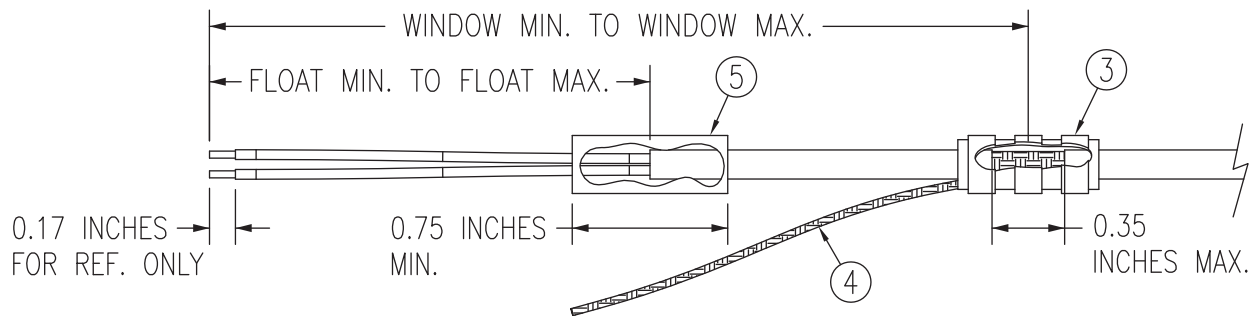

Figure 6-2 Shield Termination Technique Method A.1
- Connect a flat braid (item 4, Figure 6-2) to the shield exposed through the window of the prepared cable assembly from the preceding step. The flat braid should exit the front of the termination and towards the connector. The flat braid should not exit the rear of the termination and loop back towards the connector. Make the connection between the flat braid and the prepared cable assembly using an approved shield termination technique.
Slide a solder sleeve (item 3, Figure 6-2) onto the prepared cable assembly and connect the flat braid to the shield using a heat gun approved for use with solder sleeves. Using a solder sleeve with a pre-installed flat braid may ease the assembly. The chosen size of solder sleeve must accommodate both the number of conductors present in the cable and the flat braid.
The preferred solder sleeve is the Raychem S03 Series with a thermochromic temperature indicator (S03-02-R-9035-100, S03-03-R-9035-100, S03-04-R-9035-100). These solder sleeves come with a pre-installed braid and effectively take the place of items 3 and 4 in Figure 6-2. Reference the Raychem installation procedure, RCPS 100-70, for detailed instructions. Raychem recommends the following heating tools:
Solder a flat braid to the shield exposed through the window of the prepared cable assembly. Ensure a solid electrical connection through the use of acceptable soldering practices. Use care to avoid applying excessive heat that burns through the insulation of the center conductor(s) and shorts the shield to the signal wire(s). Slide a minimum of 0.75 inch of Teflon heat shrink tubing (item 3, Figure 6-2) onto the prepared wire assembly and shrink using a heat gun. The chosen size of heat shrink tubing must accommodate both the number of conductors present in the cable and the flat braid.
Cut the jacket and the shield off at the same point so that no shield is exposed. Slide a minimum of 0.75 inch of Teflon heat shrink tubing (item 5, Figure 6-2) onto the cable and use a heat gun to shrink the tubing. The chosen size of heat shrink tubing must accommodate the number of conductors present in the cable.
Leave a maximum 0.35 inch of shield extending past the jacket. Fold this section of shield back over the jacket. Slide a solder sleeve (item 5, Figure 6-2) over the end of the cable and use a heat gun approved for solder sleeves to secure the connection. The chosen size of solder sleeve must accommodate the number of conductors present in the cable.